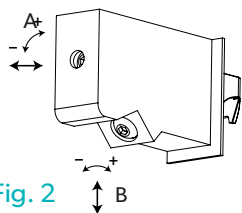

Fig. 2
6. Hang the furniture unit, ensuring the claws on the hangers are securely located on the wall brackets. Using a spirit level, make the unit level by adjusting screw B on the hangers (Fig. 2). Once straight, tighten screw A until the unit is secure against the wall.